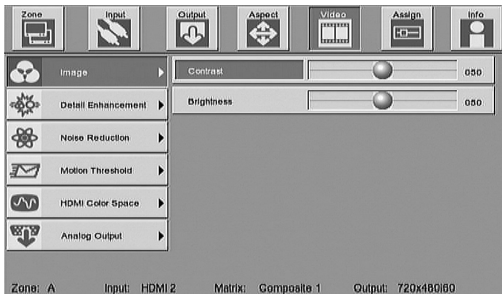

Figure 57
3. Press the **▶RIGHT** Push-button to highlight the Contrast Icon. Refer to figure 57.